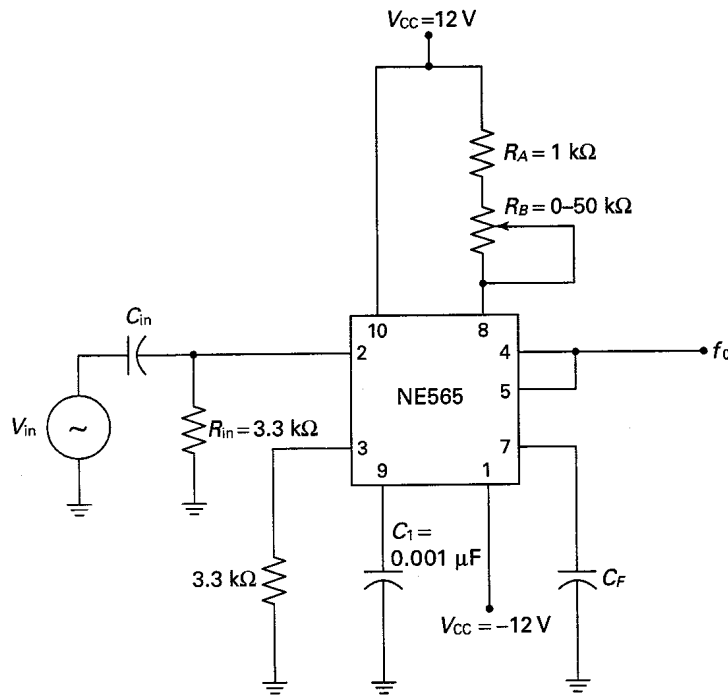

Fig. 2-35
- 2.42 Refer to Fig. 2-35. Calculate the minimum and maximum values for  $f_N$ .
- 2.43 Refer to Fig. 2-35. To what value must the resistance  $R_B$  be adjusted to obtain an  $f_N$  of 100 kHz?
- 2.44 In Fig. 2-35, assume  $R_B = 5.06$  k $\Omega$  and  $C_F = 0.047 \mu\text{F}$ . Calculate the following: (a)  $f_N$ , (b)  $B_L$ , (c)  $B_C$ , (d)  $C_{in}$ .
- 2.45** In Fig. 2-35, assume  $R_B = 212 \Omega$  and  $C_F = 0.0056 \mu\text{F}$ . Calculate the following: (a)  $f_N$ , (b)  $B_L$ , (c)  $B_C$ , (d)  $C_{in}$ .
- 2.47** Refer to Fig. 2-35. Assume  $R_B = 3.04 \text{ k}\Omega$ ,  $R_{in} = 8.2 \text{ k}\Omega$ , and  $C_F = 0.033 \mu\text{F}$ . Calculate the following: (a)  $f_N$ , (b)  $B_L$ , (c)  $B_C$ , (d)  $C_{in}$ .